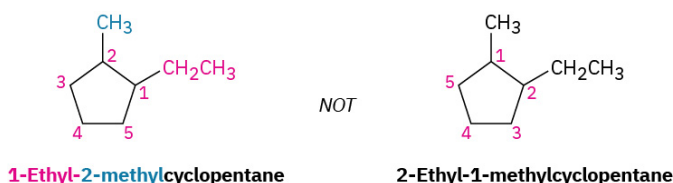

Figure 20.4h. Naming alkyl groups in alphabetical order within a cyclopentane (credit: Organic Chemistry \(OpenStax\), CC BY-NC-SA 4.0)
- (a) When two or more different alkyl groups are present that could potentially take the same numbers, number them by alphabetical priority, ignoring numerical prefixes such as di- and tri-. An example is demonstrated in Figure 20.4h.